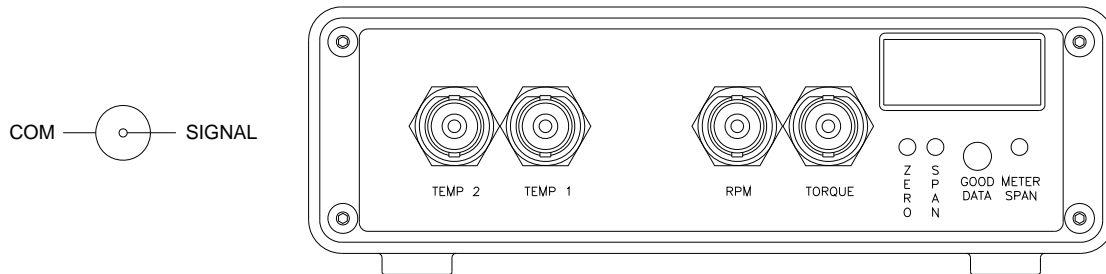

Figure 3. Receiver Connections, side 1
1. Connect the DAQ system to the signal outputs as shown in Figure 3.
The receiver has four analog outputs provided with BNC-style connectors. See Figure 3. There is one output for wheel torque, one output for RPM and two outputs for temperature. Each analog output is buffered and filtered. The filter is there to smooth the steps that are inherent in the output of the D/A converter.
This unit comes with adjustments for zero and span on the torque (sensor) output, along with a span adjustment for the built in display (meter). See Figure 3. Note that, in pre-installed and pre-calibrated systems, the span adjustments have been set at the factory, and covered with a calibration sticker. In this case, do not adjust the sensor span or meter span, else the calibration information furnished with the system will be void, and a factory recalibration will be required. The built-in display, or meter, is simply a voltmeter connected to the sensor output signal. If adjustments to the sensor span and the meter span are required, always adjust the sensor span first. For the sensor output, the zero adjustment range is +/-20% of the full-scale output range and the span adjustment range is +/-10% of the full-scale output range. The meter has a span adjustment range that covers 0 to 2000 counts with a decimal point that is factory set. With 5 volts at the sensor output, units that have the meter configured for voltage will be adjusted to show 5.00 counts. Units that have the